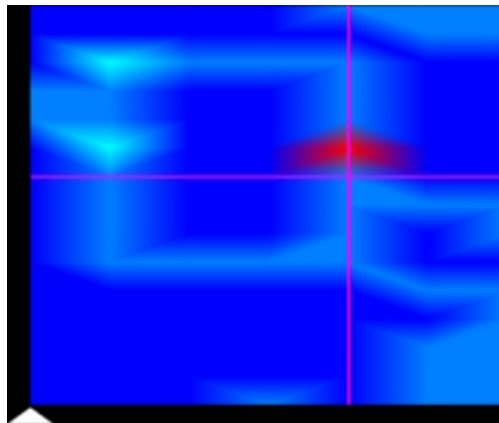

Figure 3.20
- Position the crosshairs so that they are on point in any direction where potential reading is located on screen from the scan point that you wish to change (Figure 3.20).